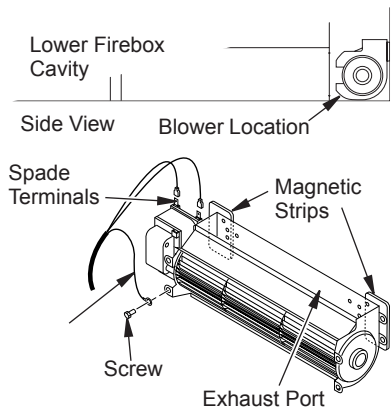

Figure 41 - Blower Model BK
1. Attach power cord to blower motor by firmly pushing two female terminals at end of power cord onto two spade terminals on blower motor (see Figure 41).
2. Attach green ground wire from power cord to blower housing using screw provided (see Figure 41). Tighten screws securely.
3. Place blower against lower rear wall of firebox outer wrapper with exhaust port directed upward. Blower will fit inside back opening and be held in position against back wall by magnets (see Figure 41).